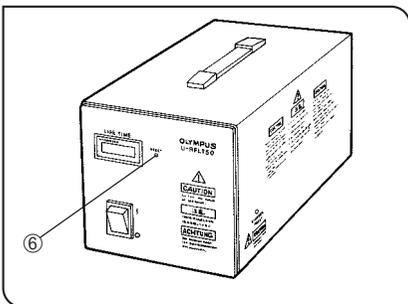

Fig. 20
6. Press the reset button ⑥ on the front of the power supply unit to reset the hour counter display to “0.0”. (Fig. 20)